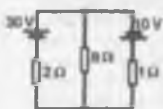

Figure 13.25
- 2 Use the superposition theorem to find the current in the $8\ \Omega$ resistor of Fig. 13.25